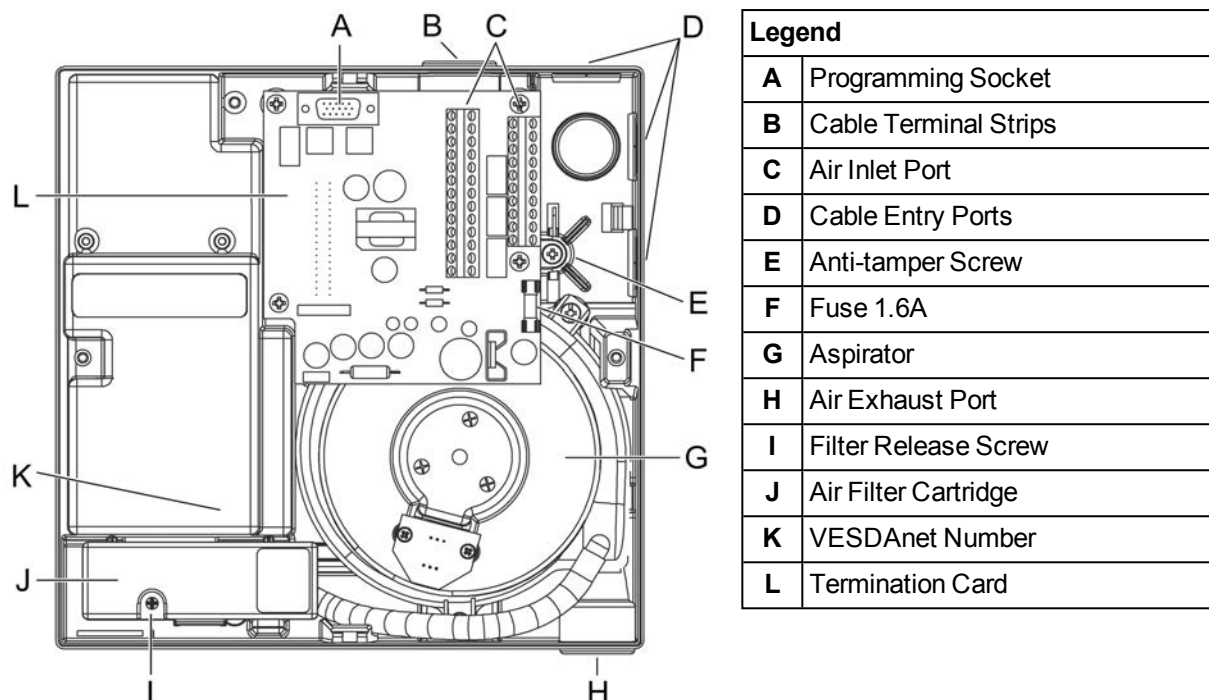

Figure 6-5: Location of Anti Tamper Screw and other Components inside the Enclosure
- c. Slide the device downwards until it locks onto the tabs and screw in the anti tamper screw. Refer to Figure 6-5 for screw location.